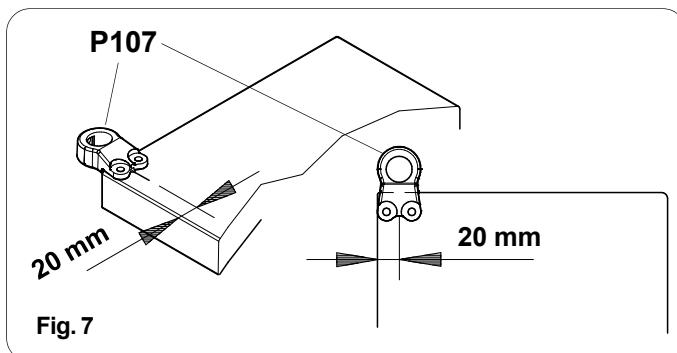

Fig. 7
- Before proceeding to assemble the steps, mount the **P107** banister column support fig. 7 - 8 - 9 - 10.